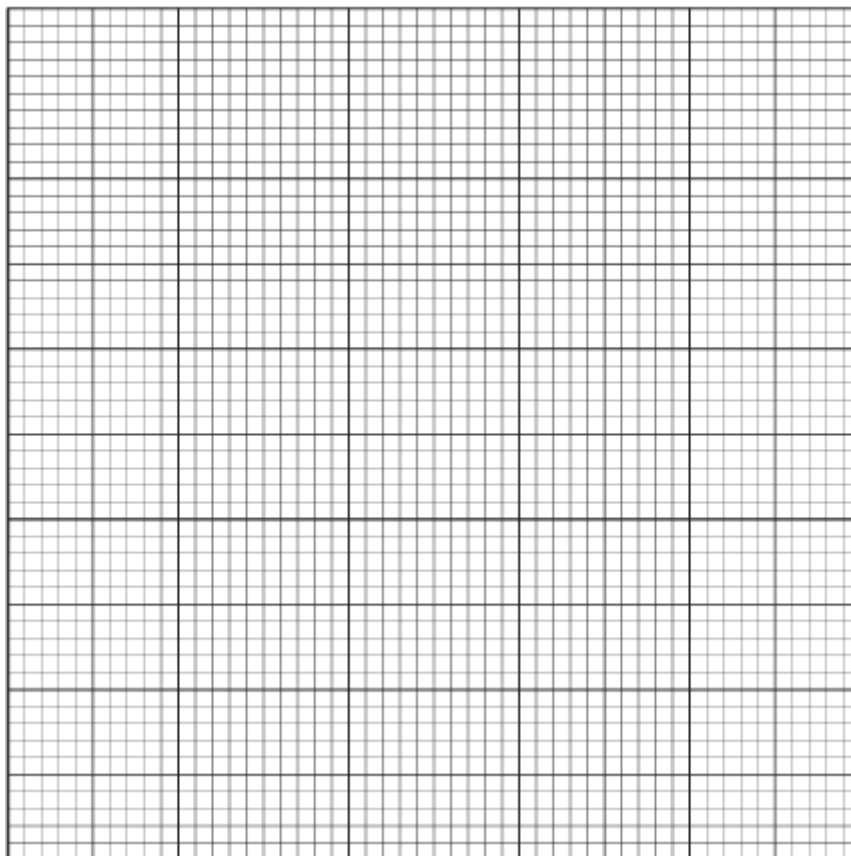

Fig. 2.2
- (i) Plot a graph of the data shown in Table 2.1 on the grid in Fig. 2.2.